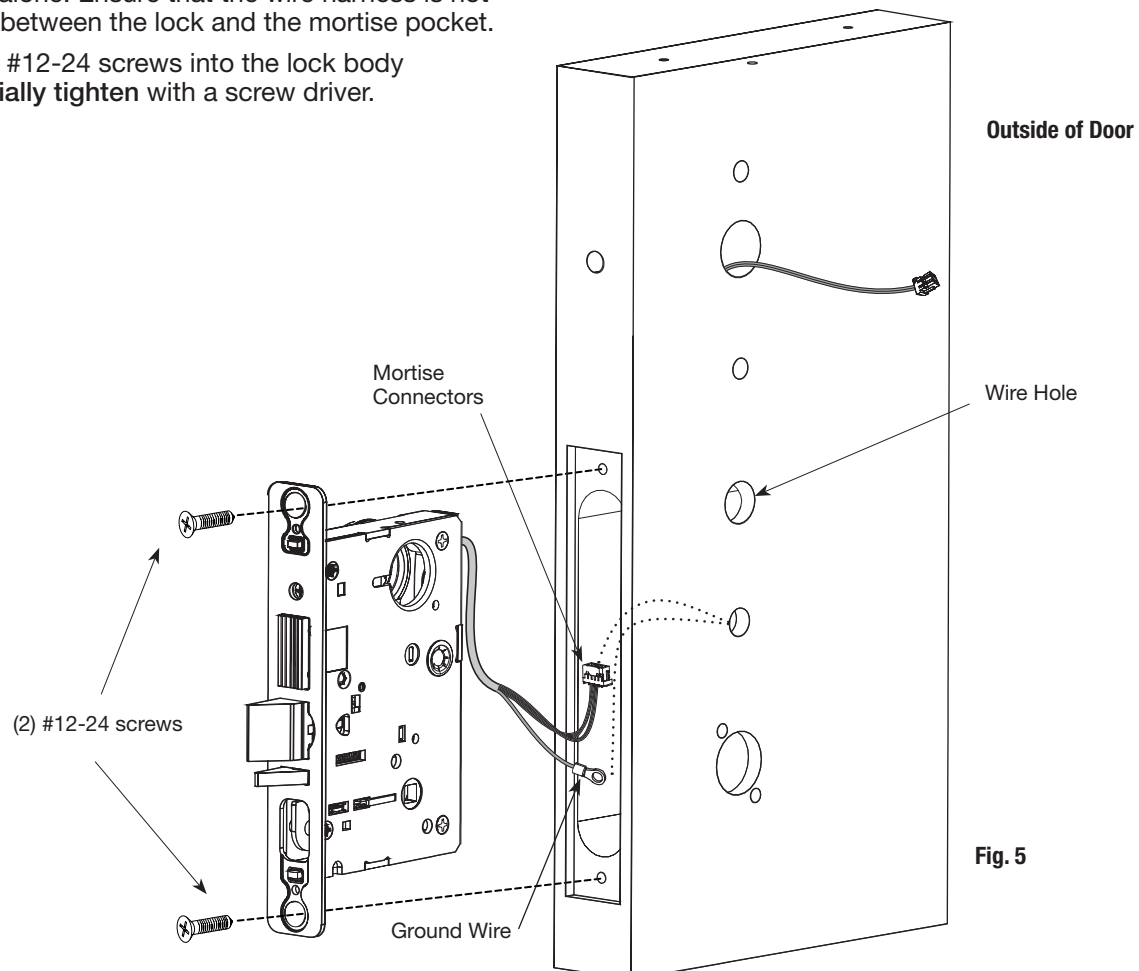

Fig. 5
1. Feed the wire harness through the mortise pocket and inside preparation hole as shown in Fig. 5.